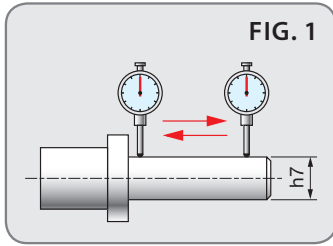

FIG. 1
- L'albero deve essere dritto ed in tolleranza h7 (Fig. 1).
- *The spindle must be perfectly straight and with an h7 tolerance (Fig. 1).*